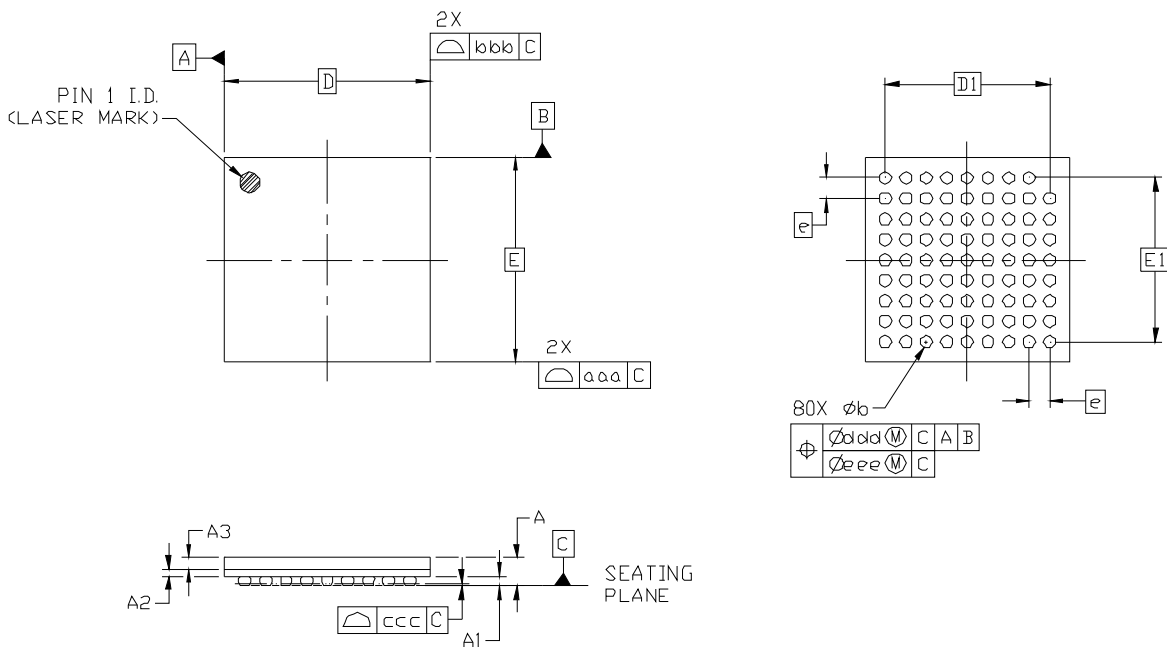

Figure 10. 80-Pin Plastic Ball Grid Array (PBGA)
Figure 10 illustrates the package details for the Si5374. Table 12 lists the values for the dimensions shown in the illustration.
- Corrected Figure 10 title.